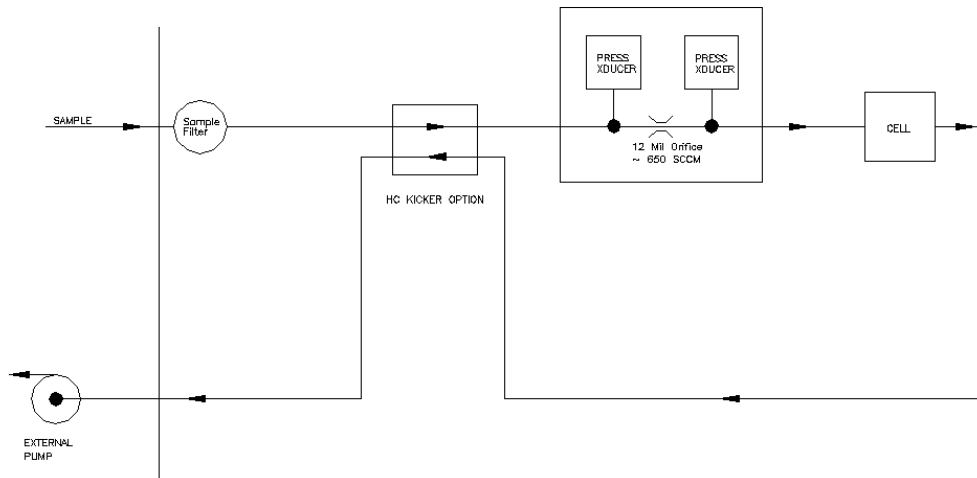

FIGURE 2 – M100E-EH
8. Comparing figures 2 and 3 will help to familiarize you with the components, their arrangement and pneumatic path.